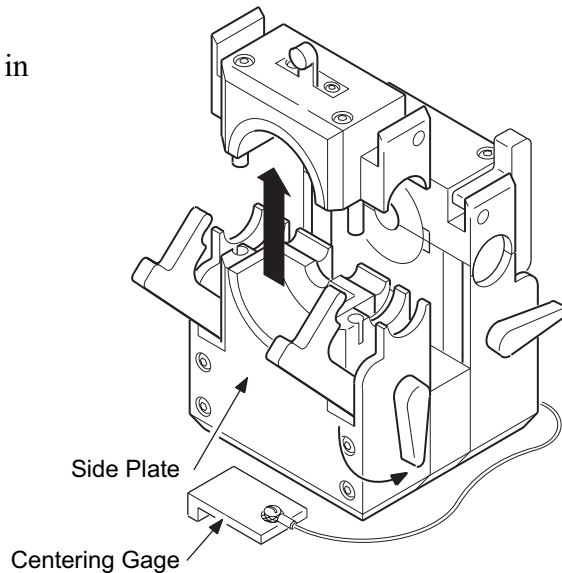

Figure 22 Removing the Top of the Side Plate
3. Turn the fixture block upright and remove the tops of the CWS-5FSP2 Side Plates. See Figure 22.